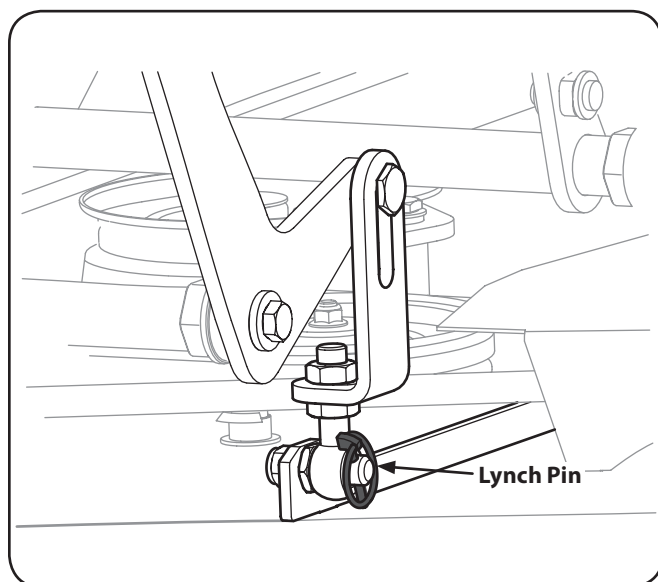

Figure 7-3
5. Remove the four lynch pins that secure the deck to the deck lift assembly. See Fig. 7-3.